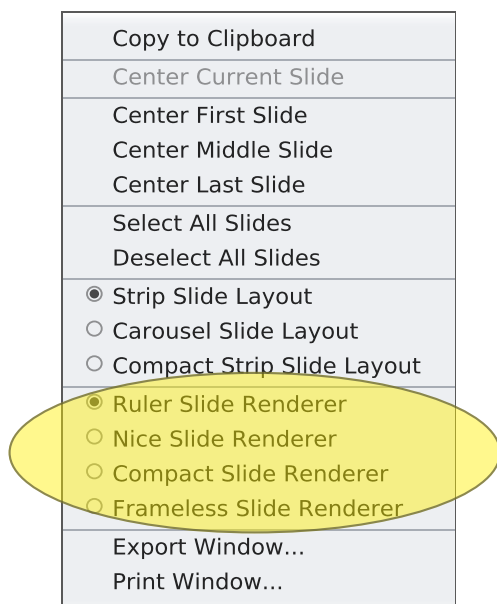

Figure 1.73: Context Menu Slide Show
- ▶ Open the context menu (see [Figure 1.73 \[▶ 86\]](#)) and invoke one of the ... **Slide Renderer** actions.